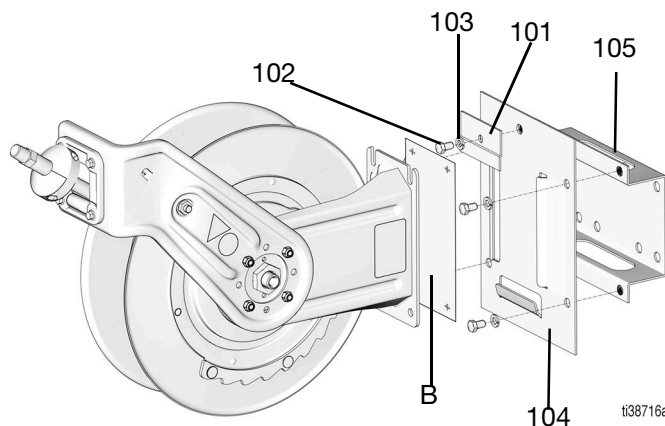

FIG. 13
NOTE: The base plate (104) can be directly mounted to the wall for easier installation and removal of the hose reel for servicing (FIG. 13).
- For mounting the reel directly to the wall, use the provided template (B) to lay out the holes for drilling (FIG. 13).
- For mounting with kit 24H193, mount the base plate (104) to the wall, slide the hose reel onto the base plate (104), then install the hold down plate (101), the washer (103), and the cap screw (102). Tighten the screw firmly (FIG. 13).
- For mounting with kits 24A934-24A939, mount the channel (105) to the wall, mount the base plate (104) to the channel (105), slide the hose reel onto the base plate (104), then install the hold down plate (101), the washer (103), and
the cap screw (102). Tighten the screw firmly (FIG. 13).
- Slide the hose reel onto the base plate (104) then install the hold down plate (101), washer (103), and cap screw (102). Tighten the screw firmly (FIG. 13).